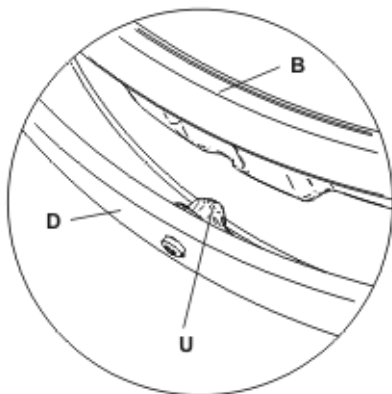
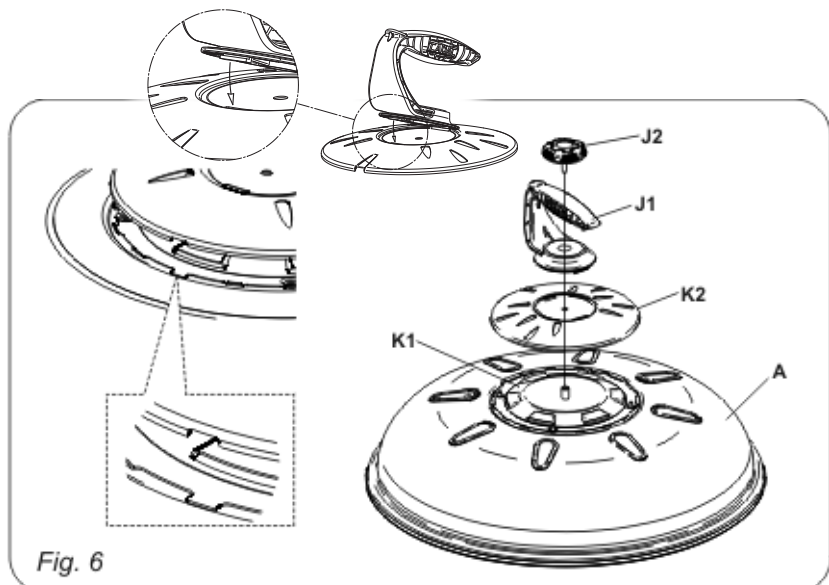

Fig. 5
Fig. 6
- To use the BBQ or Grill place the Fat Pan (B) onto the Burner Pan (D) and place the chosen top onto the Fat Pan (B) as indicated in Fig.5 and as described in Section 8 Using the Appliance.
- The Skottel BBQ fits directly onto the outer lip of the Burner Pan (D).
- Before using the BBQ Lid (A), the BBQ Lid Handle (J1) must first be fitted (See Fig.6). Place the BBQ Lid Handle (J1) with the Handle Bracket inner (K1) facing upwards onto a flat level surface. Take the handle bracket outer (K2) and assemble the BBQ Lid handle (J1) to it by clipping into place. Place the Handle bracket outer (K2) over the Handle bracket inner (K1) making sure that the cutout in the outer lip mates with the tag extending from the outer edge of the handle bracket inner. Tighten the assembly down by inserting the bolt (J2) through the hole in the BBQ Lid handle (J1) and Handle bracket outer (K2) and mating it with the weld nut on the Handle bracket inner. **Do not forget to place the washer under the bolt head.**
- The BBQ Lid is now ready to use. To fit the BBQ Lid place it concentrically over the outer lip of the Fat Pan (B) or alternatively onto the Skottel BBQ as relevant.
- To prepare the BBQ option for use, first place the Fat Pan (B) on the Burner Pan (D) making sure that the location recesses on the Fat Pan (B) line up with the Fat Pan Locators (U) (Fig.5) on the outer edge of the Burner Pan (D). Also ensure that the Inspection Holes (C) on Fat Pan line up with Inspection Holes on Burner Pan. Place the Deflector Plate (H2) centrally into the bottom of the Fat Pan (B) so that it rests on its five feet. Complete the assembly by placing the chromed Wire Grid (H1) in place within the location recess in the Fat Pan (B).
- To prepare the Non-Stick Reversible Grill option for use, first place the Fat Pan (B) on the Burner Pan (D) making sure that the location recesses on the Fat Pan (B) line up with the Fat Pan Locators (U) (see Fig.5) on the outer edge of the Burner Pan (D). Also ensure that the Inspection Holes (C) on Fat Pan line up with Inspection Holes on Burner Pan. Depending on the desired cooking option, place the Non-Stick Reversible Grill Plate (G) with either the ribbed or flat surface face up, securely within the upper recess of the Fat Pan (B). The easy to clean, non-stick surface allows for healthier cooking using less fat.
- Adjust the cooking time and temperature depending on personal preferences for rare, medium or well done. Meat cooked in this manner, on the ribbed surface of the Non-stick reversible grill plate (G) will have the blackened lines as on professionally grilled steaks.